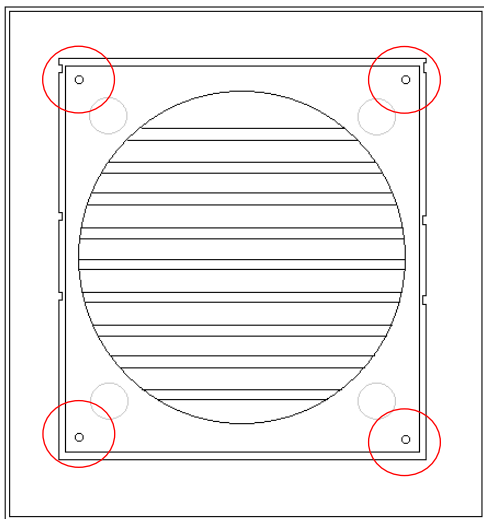

Fig.4
- The preformed holes for fixing the external grille to the brick will be located at each corner of the back plate. See Fig 4. Below.